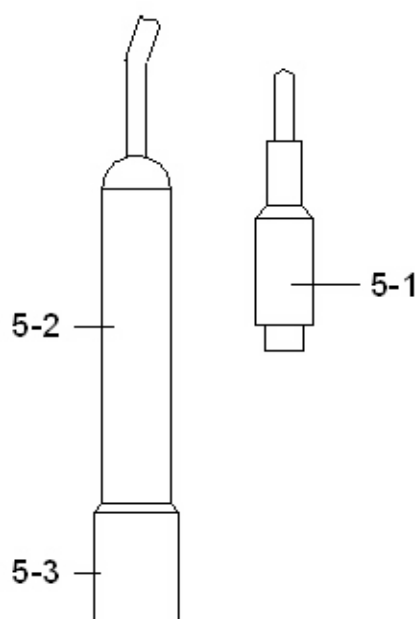

Fig. 3
- 1) Prepare the Conductivity Probe (optional, CDPB-03), install the " Probe Plug " (5-1, Fig. 3) into the " CD Socket " (3-14, Fig. 1).
* Hold the " Probe Handle " (5-2, Fig. 3) by hand and let the " Sensing head " (5-3, Fig. 3) immersed wholly into the measured solution. Shake the probe to let the probe's internal air bubble drift out from the sensing head.
- 2) Install the " Probe Plug " (5-1, Fig. 3) into the " CD Socket " (3-14, Fig. 1).
- 4) Hold the " Probe Handle " (5-2, Fig. 3) by hand and let the " Sensing head " (5-3, Fig. 3) immersed wholly into the measured solution. Shake the probe to let the probe's internal air bubble drift out from the sensing head.